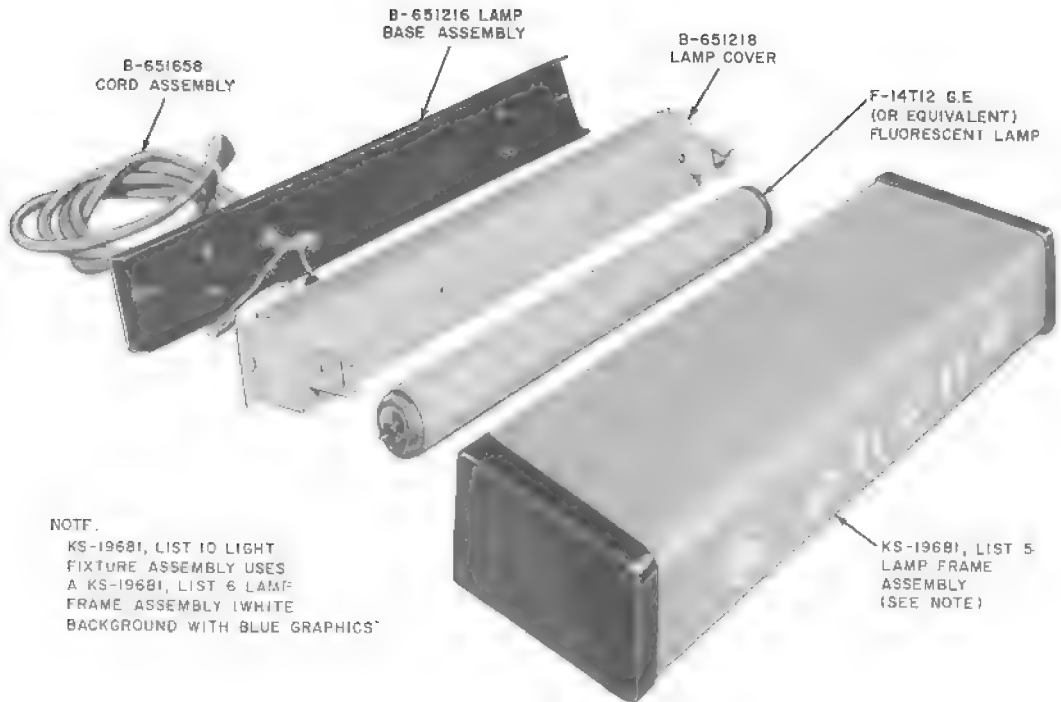

Fig. 6—KS-19681, List 9 Light Fixture Assembly
- (1) Remove tamper resistant screw at top center of shelf using a KS-19192, List 1 wrench.
- (2) Remove sign to the left and pull away from shelf.
- (3) Install new sign, using reverse procedure.
- 4.06** To replace KS-19681, List 9 or List 10 sign (Fig. 6) with same type sign:
- (1) Remove sign as in 4.05 (1) and (2).
- (2) Insert four plasti-grommet inserts (Fastex Div. of Ill. Tool Works No. 242-180602-90-0101, furnished with light fixture) in the four mounting holes.
- (3) Disassemble the sign to make wiring accessible (Fig. 6).
- (4) Remove wire nuts and disconnect lamp cord from ballast and lamp holder.
- (5) Run a fish tape through entrance hole in rear of shelf and down wire channel until it is accessible at bottom of shelf.
- (6) Tie lamp cord to fish tape and pull it up into position.
- (7) Install base assembly on shelf using the four No. 8 by 3/4 Phillips head self-tapping screws furnished with light fixture.
- (8) Reconnect lamp cord to ballast and lamp holder.
- (9) Install cover on base assembly.
- (10) Install fluorescent lamp (G.E. No. F14T12 or equivalent).
- (11) Install frame and diffuser and secure them with the four No. 8-32 by 1/2 stainless steel screws.
- (12) Plug lamp cord into wall socket.